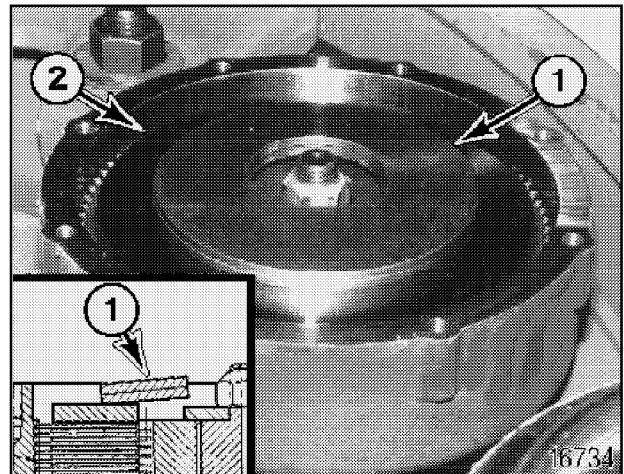

Figure 24
22. With "Circle Slip Clutch Gauge Tool" (1, Figure 19) removed, install two belleville springs (1, Figure 24) on backing plate (2).